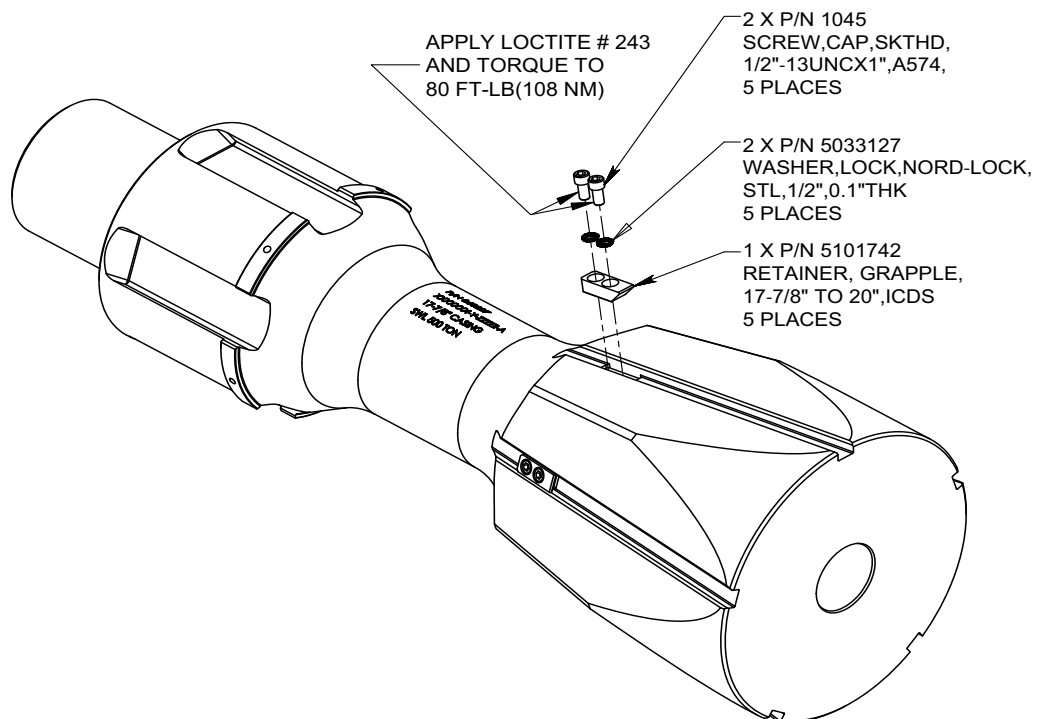

Figure 6
- Refer to Figure 6 for the assembling detail.